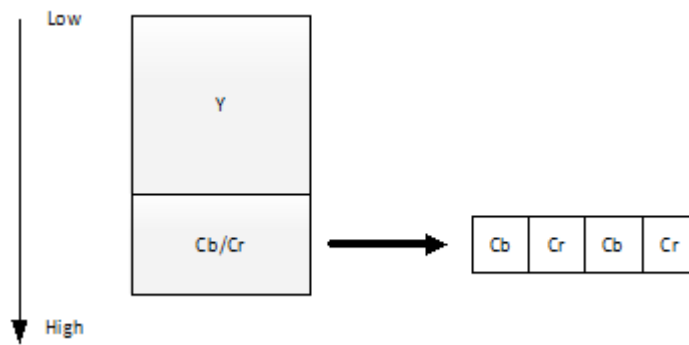

Fig. 7 Format NV12
Layout NV12 is YCbCr hybrid format with 420 subsampling. There are two planes: Y, Cb/Cr. Luminance plane (Y) has the same size as original image. Each chrominance value corresponds to one block (2 rows by 2 columns) of original image. Combined Cb/Cr plane contains alternated Cb and Cr pixels. So Cb/Cr plane width is equal to original image width and its height is downsampled by two times. Figure 7 shows color planes in memory array.